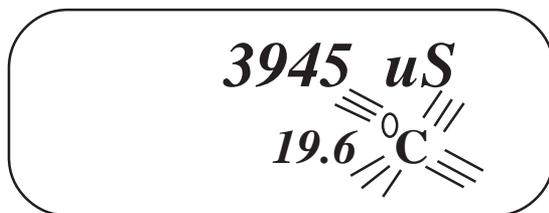

Figure 3-24: LCD Display YSI 85
4. With the probe in the sample or waterbody press and release the **MODE** button slowly and deliberately until the LCD display shows the "**uS** or **mS**" symbol next to the main display and the flashing "**°C**" symbol in the lower right hand corner of the LCD (Figure 3-24).